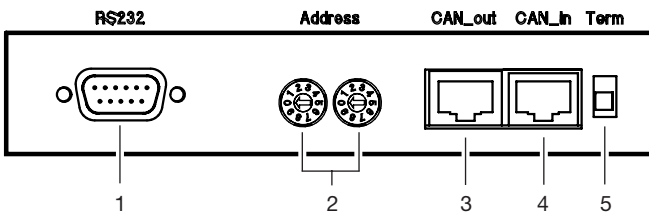

Figure 4: Connection strip of *realplex* module
- 2 Connection strip of *realplex* module (see Fig. 4)